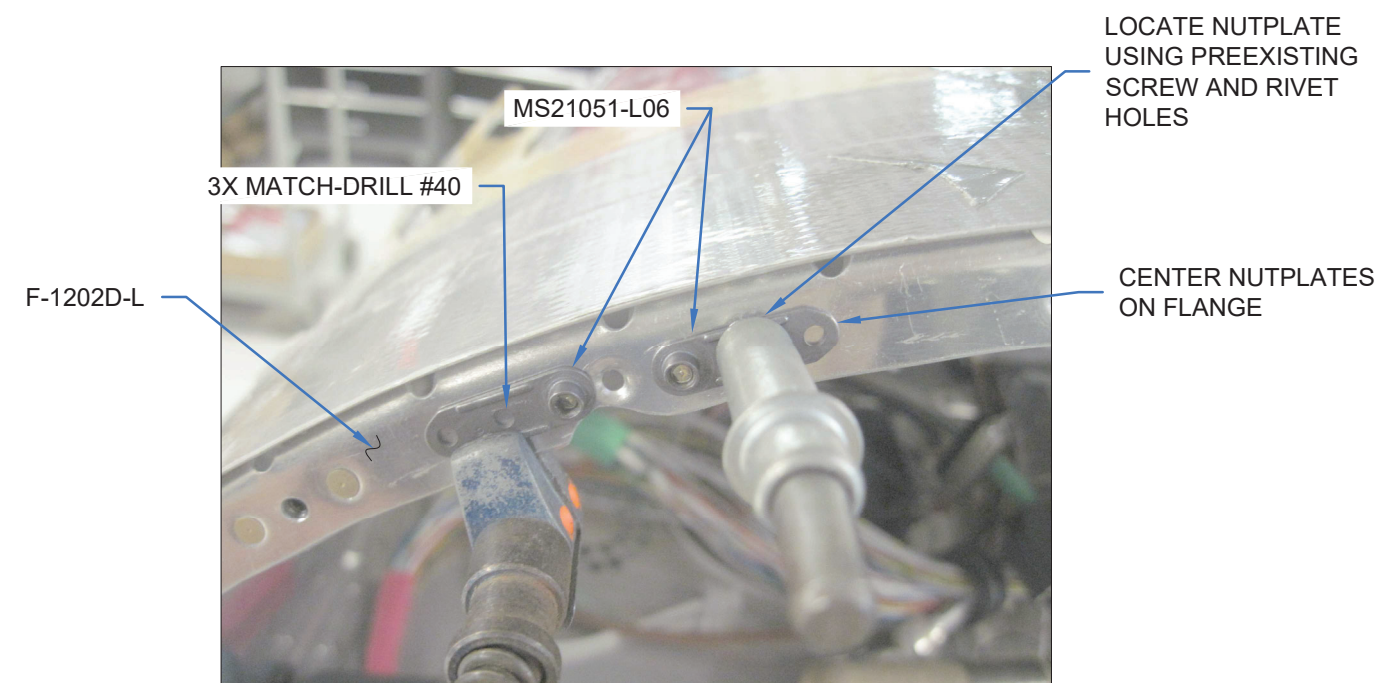

FIGURE 2: NOTCH FOR DISPLAY & NEW NUTPLATES
Step 6: Use two screws to temporarily attach nutplates to the aft side of the F-1202D-L as shown in Figure 2. Use the hole drilled in Step 2 to locate the left nutplate. Use the preexisting hole to locate the right nutplate. Center the nutplates on the flange of the strip.
Step 7: Match-drill #40 the nutplate attach holes into the F-1202D-L using the nutplates as shown in Figure 2.